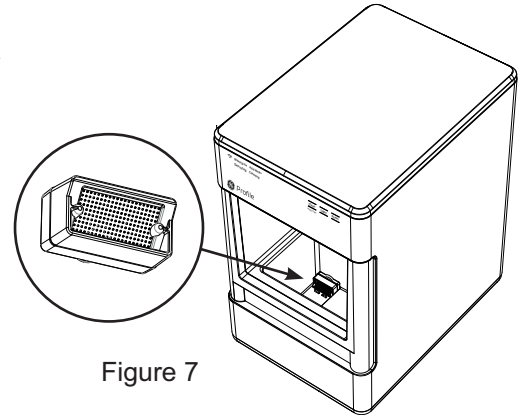

Figure 7
- Uninstall all accessory filters and replace mesh screen that came with the unit. (Figure 7)